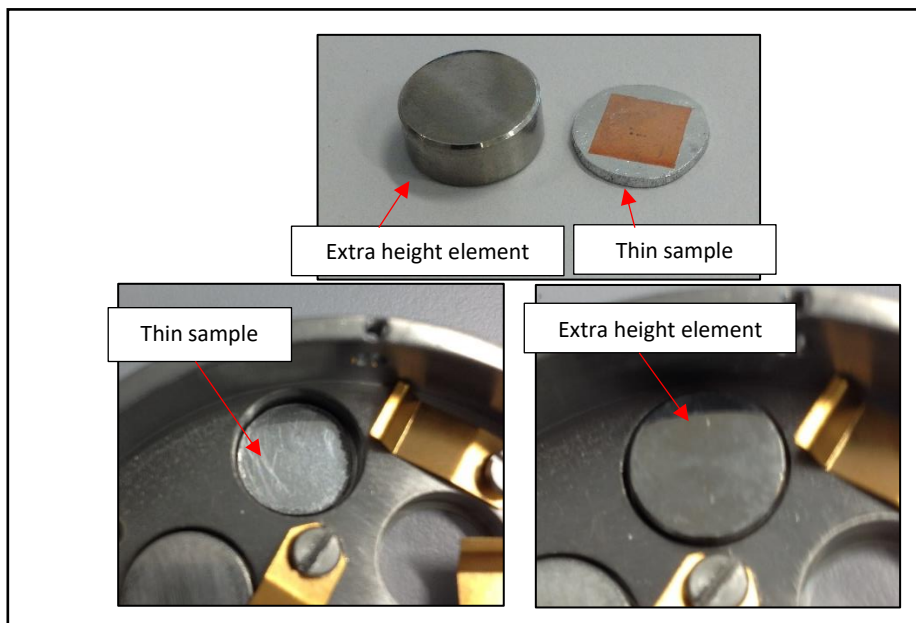

Figure 276: Extra height element for thin samples
- If the sample is too thin, add an extra height element (Figure 276) to facilitate the spring push.